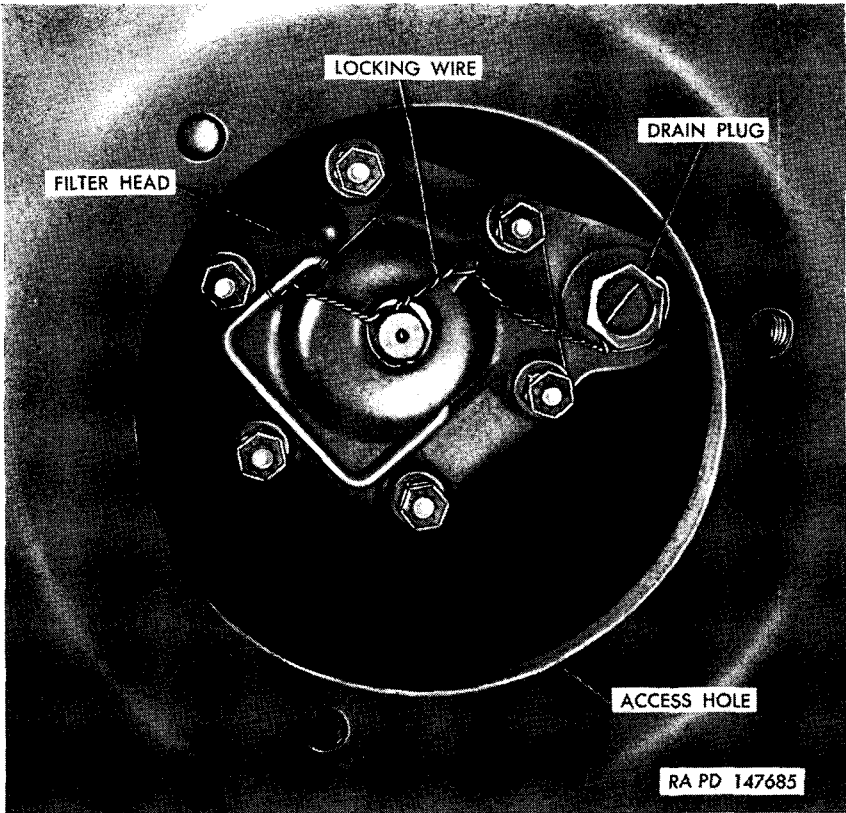

Figure 105. Oil filter element—installed view.
a. **REMOVAL.** Remove the oil filter access hole cover from bottom of hull (fig. 285). Remove locking wire from six oil filter nuts and drain plug (fig. 105). Remove plug and drain oil from filter housing. Remove jam nuts, nuts, and washers from six studs and remove oil filter element.
c. **INSTALLATION.** Insert the filter element back into housing in the accessory case using the same precautions outlined for removal (a above). When installing the filter element, do not attempt to force it into place. If binding is noted, withdraw and inspect pilot for evidence of misalignment. A properly aligned filter element will seat without forcing. When the filter element has seated, install new gasket. Secure with six nuts and washers and lock with jam nuts. Install drain plug. Lock drain plug and nuts with locking wire (fig. 105). Install oil filter access hole cover (fig. 285).